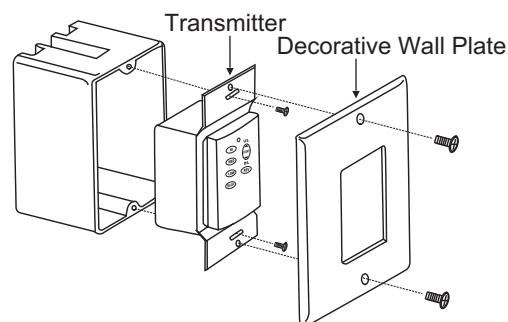

Figure 2
2. Attach the transmitter unit to the outlet box using two machine screws provided. (Fig. 2)
3. Select two screws with colored heads to match the finish of the decorative plate and attache the decorative wall plate to the transmitter. (Fig. 2)